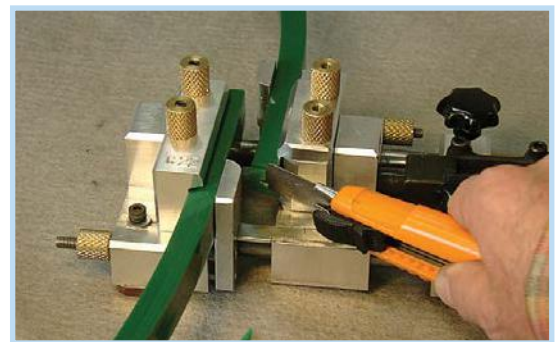

Fig. 34
5. Cut a bevel on the inside of each belt end (Fig. 34).